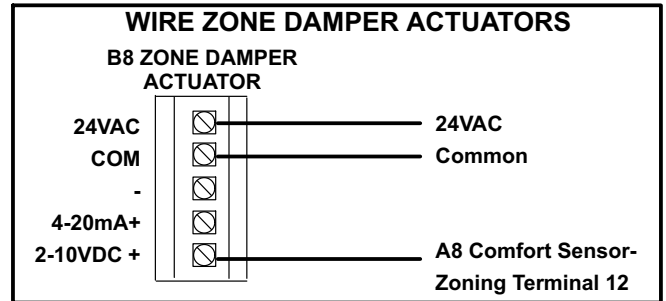
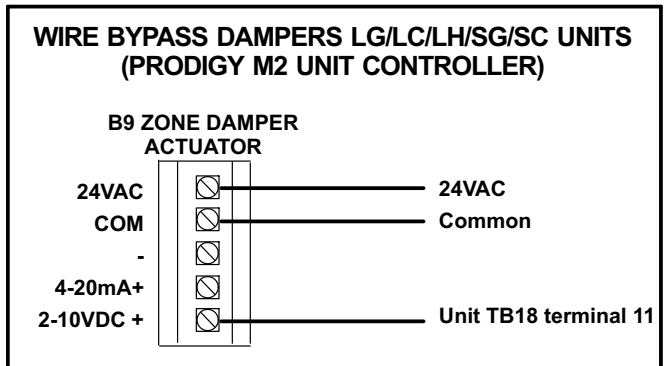

FIGURE 14
FIGURE 15
See figure 14 to wire actuators installed on zone dampers and figure 15 or 18 to wire actuators installed on bypass dampers. Also refer to 505,090M, Zone Link (ZL) - L Connection® Network (1127) for further details concerning setup and wiring.